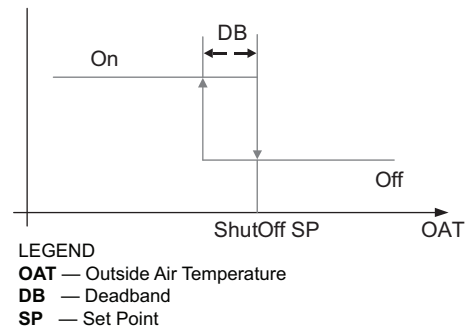

Fig. 67 — Hysteresis Settings
Hysteresis setting (DB) defaults to 2°F (–17°C). See Fig. 67.